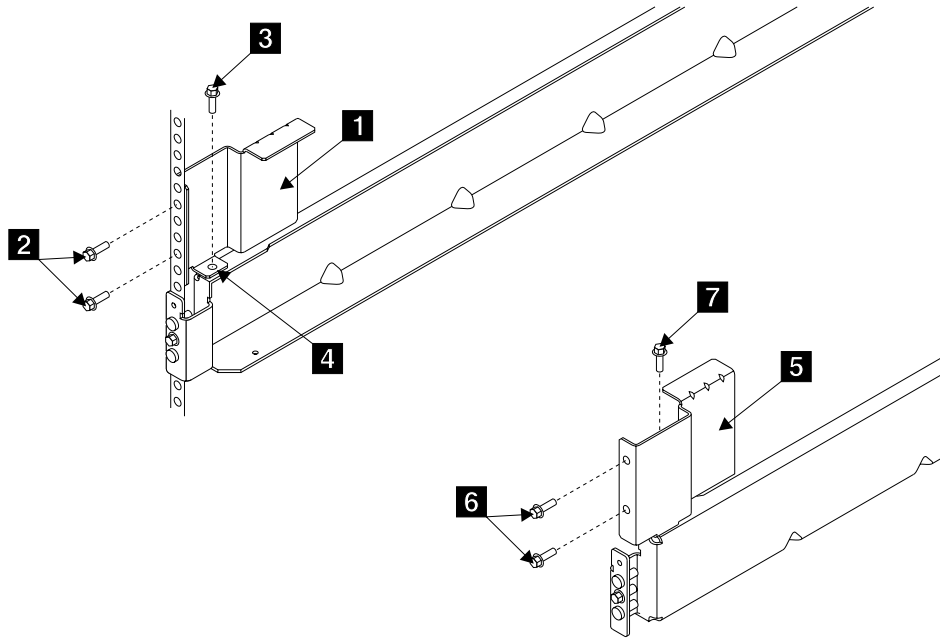

Figure 8. Installing the Back Brackets onto an RS/6000 Rack
Step 14. Refer to Figure 8.
- Step 19. Place the other back bracket **5** into position, as shown in Figure 8.